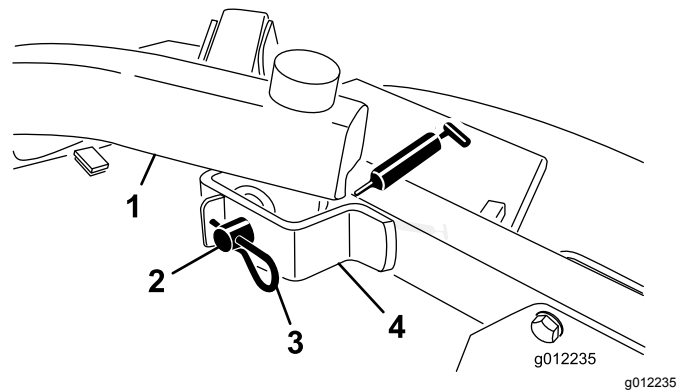

Figure 22
- Lift arm pivots, front (2) (Figure 22)